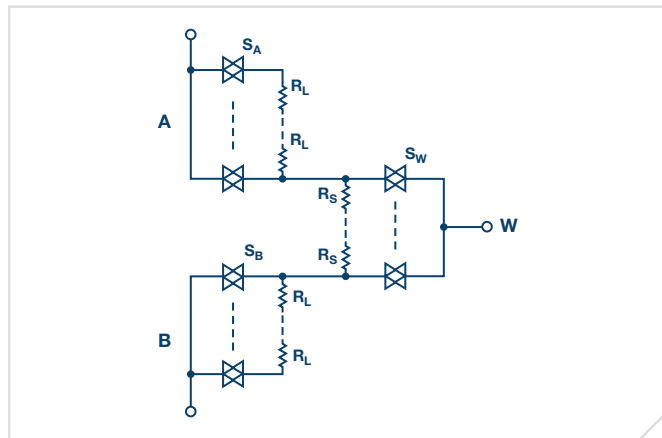

Figure 11. Internal architecture.
**Bandwidth**—the digiPOT architecture is comprised of resistors and switches (see Figure 11). The resistance of the resistors in the path of a particular code, combined with the switch parasitic, pin, and board capacitances, creates an RC low-pass filter, which determines the maximum ac frequency that can be passed through the the digiPOT before it is attenuated by more than -3 dB. Choosing a low end-to-end resistor option will support a higher -3 dB bandwidth (see Table 2).